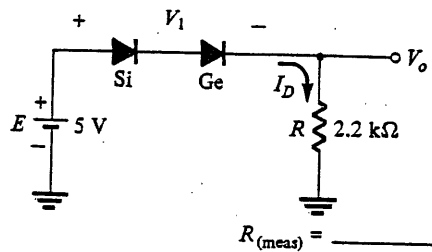

Figure 3-5
- i. Construct the network of Fig. 3.5. Record the measured value of  $R$ .